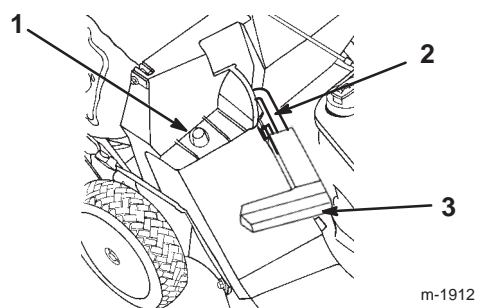

Figure 20
2. Ensure that the discharge door handle is fully forward and that the pin is engaged in the catch (Fig. 20).
3. Slide the hole in the bag frame onto the retaining post on the discharge tunnel (Fig. 20).
2. Raise the discharge door handle and move it forward to engage the pin with the catch (Fig. 20).